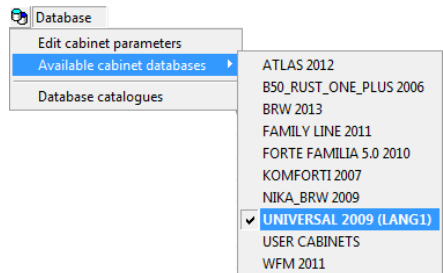

Fig. 39 –Universal database selected for edition
3) Edit cabinet parameters – opens a window in which you can define the components of cabinets available in CAD Kitchens and CAD Decor PRO databases. To be able to edit cabinet parameters, you should choose the database you want to use from the list (Fig. 39). The procedure of defining components is described in point 7.1. **Importing orders and defining cabinets** on pages 41-45.